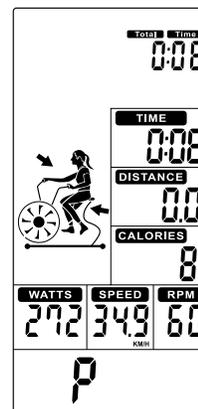

Figure 17
1. In Standby Mode, press "START" to begin the workout. The buzzer will sound for 1 second. The **TOTAL TIME, TIME, DISTANCE, CALORIES, WATTS, SPEED, and RPM** will start counting up (see Figure 17).